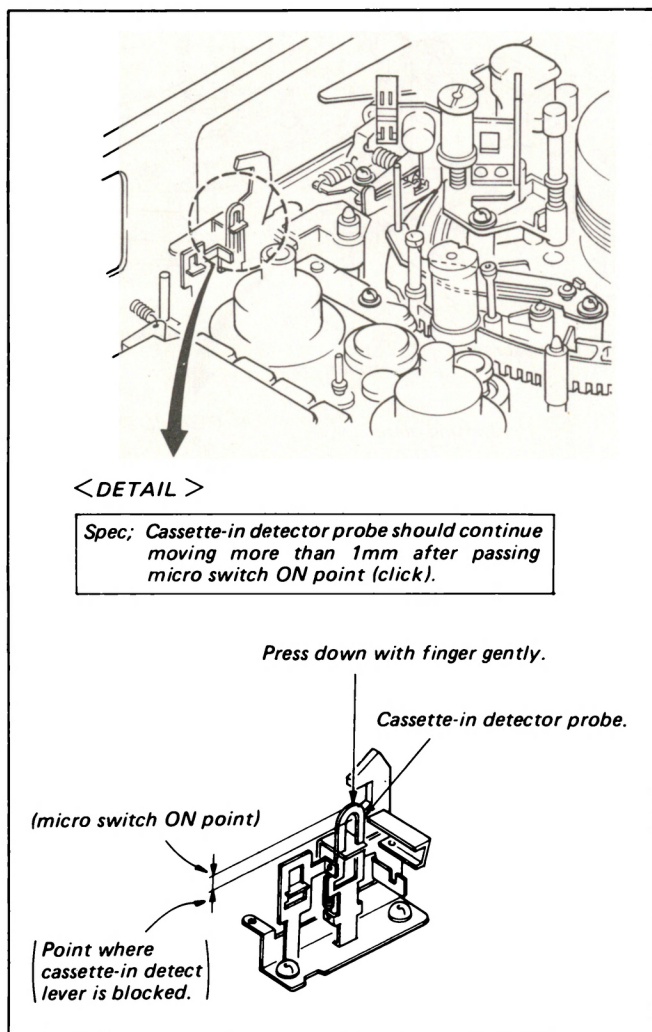

Fig. 6-4. Cassette-in detect switch operation check (Power; OFF mode)
1. Press down top of the cassette-in detector probe slowly with the finger. See Fig. 6-4.